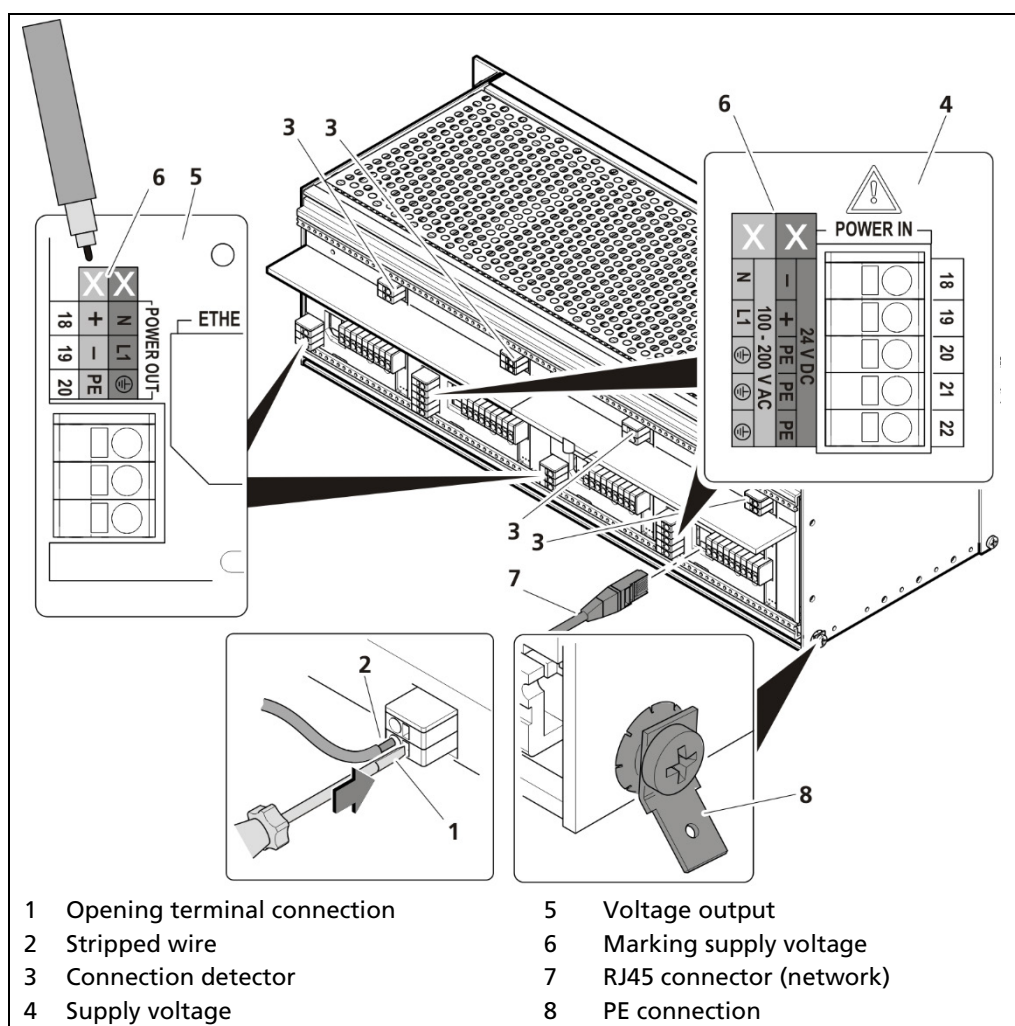

Fig. 20 Electrical connection in the 19" subrack
Prior to initial start-up, the voltage range (Fig. 20, item 8) must be marked with chemical resistance on all input and output terminals!
The terminal board master/slave is used twice (Fig. 20, item 2) for the variant to install 2 master EVUs and 6 slave modules.
The terminal board master/master (Fig. 20, item 1) is used twice for the variant to install 4 master EVUs.
Apply the voltage of the specified and marked (Fig. 20, item 6) range only!
2. Label the voltage range permanently and chemically (Fig. 20, item 6).
4. Open the terminal connection (Fig. 20, item 1) with an operating tool (slot-tipped screwdriver) and insert the stripped wire (min. 8 mm) (Fig. 20, item 2). The terminal connection closes by pulling out the operating tool. The terminal connections are designed for flexible wires:
5. Plug the network plug into the RJ45 socket (Fig. 20, item 7) (optional).
6. Check the correct connection of the PE conductor (Fig. 20, item 8).